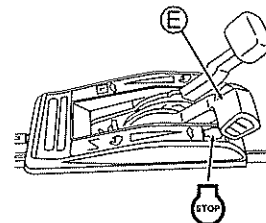

Fig. 14
- The engine stalls if the blade lever is gripped with Throttle lever (E) set at "I".
- 2 Set Throttle lever (E) to "STOP". (See Fig. 14)